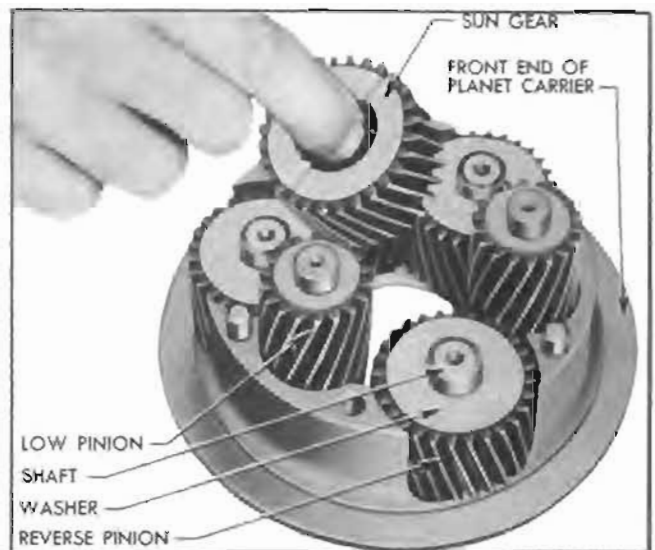

Figure 4-124—Removal of Sun Gear and Planet Pinions
3. Remove the sun gear rear thrust washer, which may be either on sun gear or stuck in rear end of carrier. Remove reverse sun gear. See figure 4-124.
4. Remove the 3 low planet pinion assemblies, each consisting of a pinion, shaft, and bearing rollers retained at each end of pinion by steel thrust washers. See figure 4-124. A retaining ring snapped into a groove in shaft will hold the lower thrust washer in place as shaft is tapped out of carrier. The shaft is prevented from turning in carrier by a  $\frac{3}{32}$ " steel ball imbedded in end of shaft. Do not lose the steel ball.
2. Make sure that steel ball is embedded in each shaft to prevent turning in carrier, then install planet pinion assemblies in front end of planet carrier, using care to engage the steel balls in the notches in carrier. See figure 4-124.